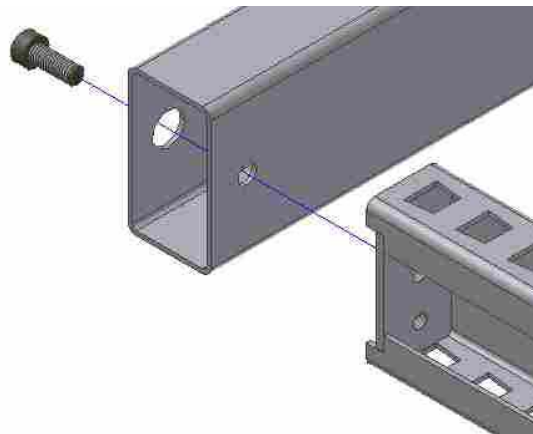

Fig 5
MOBILE SIDE: The only difference in the **mobile base side** is that the **levelers** are replaced by two **wheels**. (Fig. 5)
STEP 3 – Screw both **feet** in with a single **M8x20 DIN 912 Allen screw** (Fig. 5 and 6).
STEP 4 - Screw the **top bar** to the **grooved bars** with 1 **M8x20 DIN 912 Allen screw + M8 Grover washer** for each **bar** (Fig. 5).